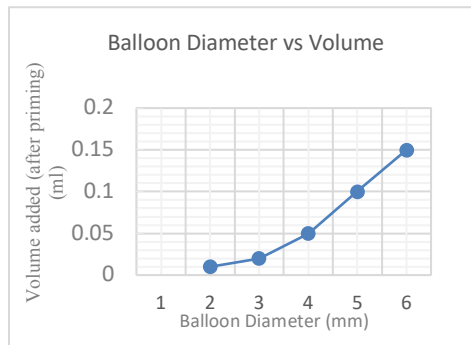

Figure 3: Balloon Inflation Volumes
- c. Incrementally inject contrast until the balloon is visualized as contouring the vessel wall. A distal shift of the balloon may occur which is normal and expected. (Refer to Figure 3 for approximate balloon diameters as related to injected volumes.) **WARNING:** Do not exceed the maximum recommended inflation volume of 0.25 ml as balloon rupture may occur (see Figure 3). **WARNING:** Careful fluoroscopic observation of the catheter inflation and deflation in-vivo is essential for patient safety. **WARNING:** Do not attach a high-pressure device on the balloon inflation port as this may rupture the balloon. **WARNING:** Do not use a catheter that has been damaged. **WARNING:** Do not inflate the balloon with air or gas while in the body.